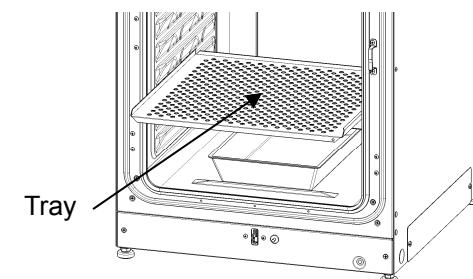

Fig. 1
2. Open the outer and inner doors and pull out all the trays (Fig. 1).